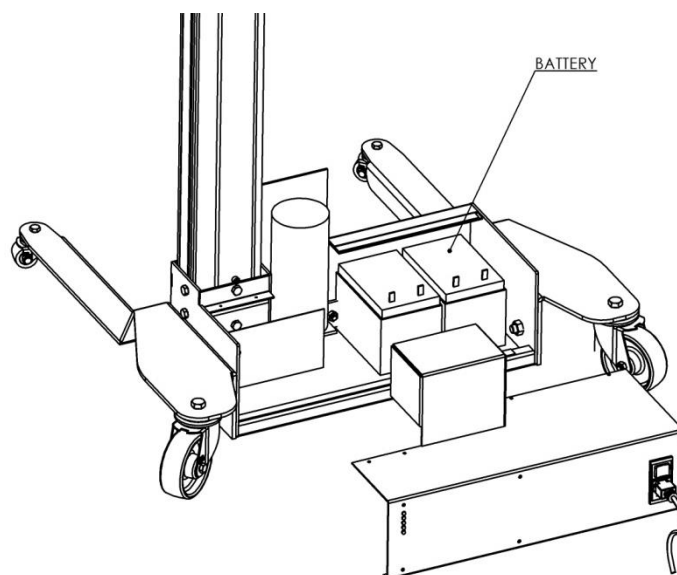

Figure 2 – Engine compartment opening
- 3) Connect the batteries as shown in Figures 2 and 3.